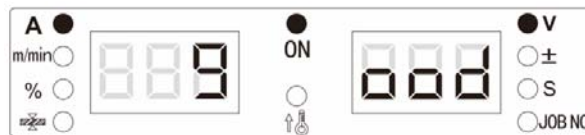

Fig.3-14 "Good" Display Interface
2. Long press "Function" key, and the LED display shows "good" and flashing which means successful restoring factory settings (shown in fig.3-14).